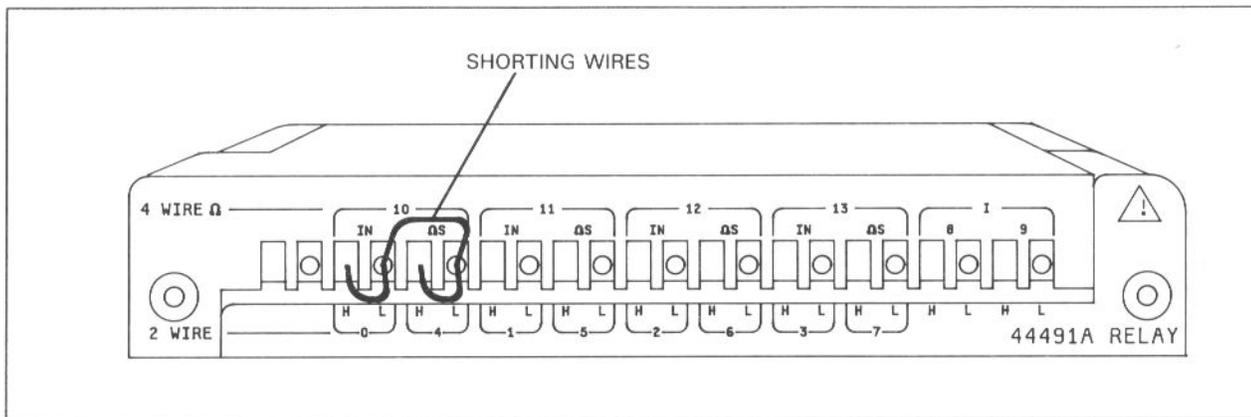

Figure 4-21. HP 44491A Terminal Block Assembly Connections
1. Connect shorting wires to the channel 10 inputs of the Terminal Block assembly as shown in Figure 4-21.